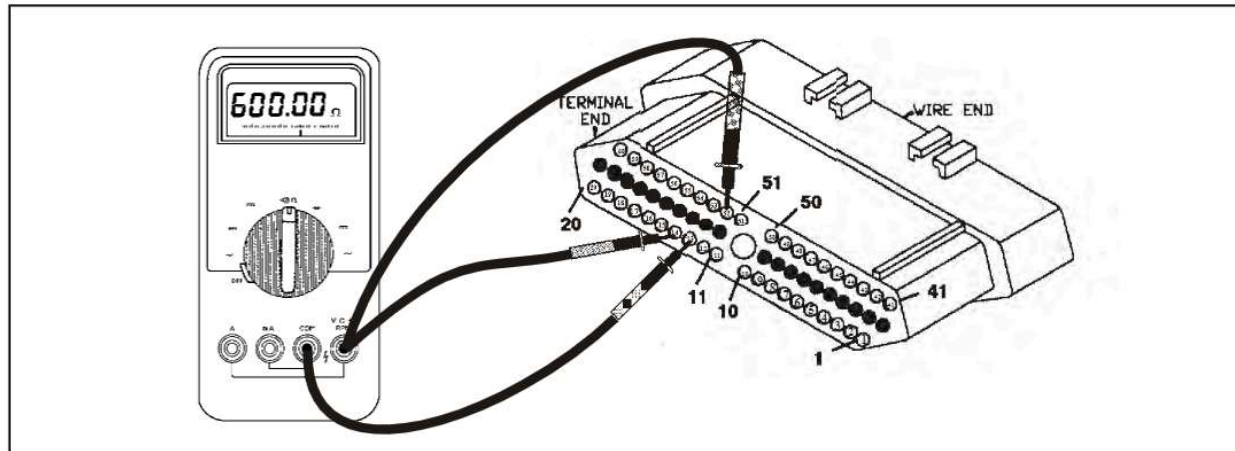

Figure 60
- With the ignition off, unplug the TCM. With an ohm meter, place the negative lead to terminal 13. With the positive lead, the turbine shaft RPM sensor's resistance can be measured by placing the lead onto terminal 52. The output shaft RPM can be measured by placing the positive meter lead to terminal 14. Both RPM sensor should measure between 500 to 600 ohms (See Figure 60). *Note: Factory repair manuals specify 300 to 1200 ohms. It has been ATSG's experience that this is too broad of a range. However, if a sensor measures 1200 ohms, the other sensor should be within the same range otherwise it should be determined defective.* Replace RPM Sensor or Sensors if necessary.